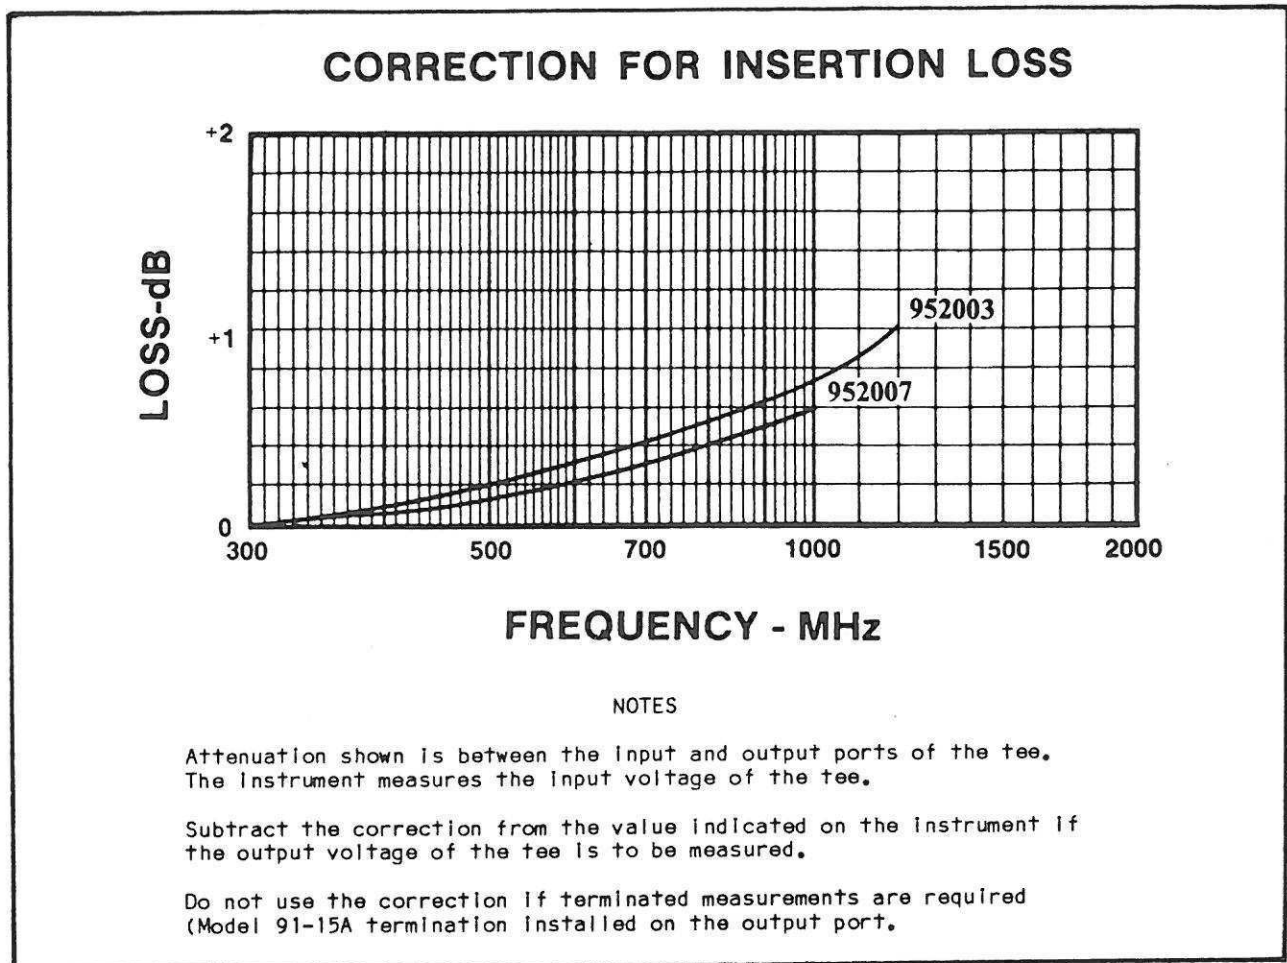

Figure 3-4. Correction Curves for Models 952003 and 952007 Type N Tee Adapters.
a. When using the optional Model 952003 50  $\Omega$  N Tee Adapter, the input voltage to the adapter is indicated directly on the instrument. To obtain the correct output voltage from the adapter, subtract the correction shown in Figure 3-4 from the input voltage, in dB, indicated on the instrument. Corrections are not required if the Model 952003 is terminated in 50  $\Omega$ .
a. When using the optional Model 952007 75  $\Omega$  N Tee Adapter, the input voltage to the adapter is indicated directly on the instrument. To obtain the correct output voltage from the adapter, subtract the correction shown in Figure 3-4 from the input voltage, in dB, indicated on the instrument. Corrections are not required if the Model 952007 is terminated in 75  $\Omega$ .